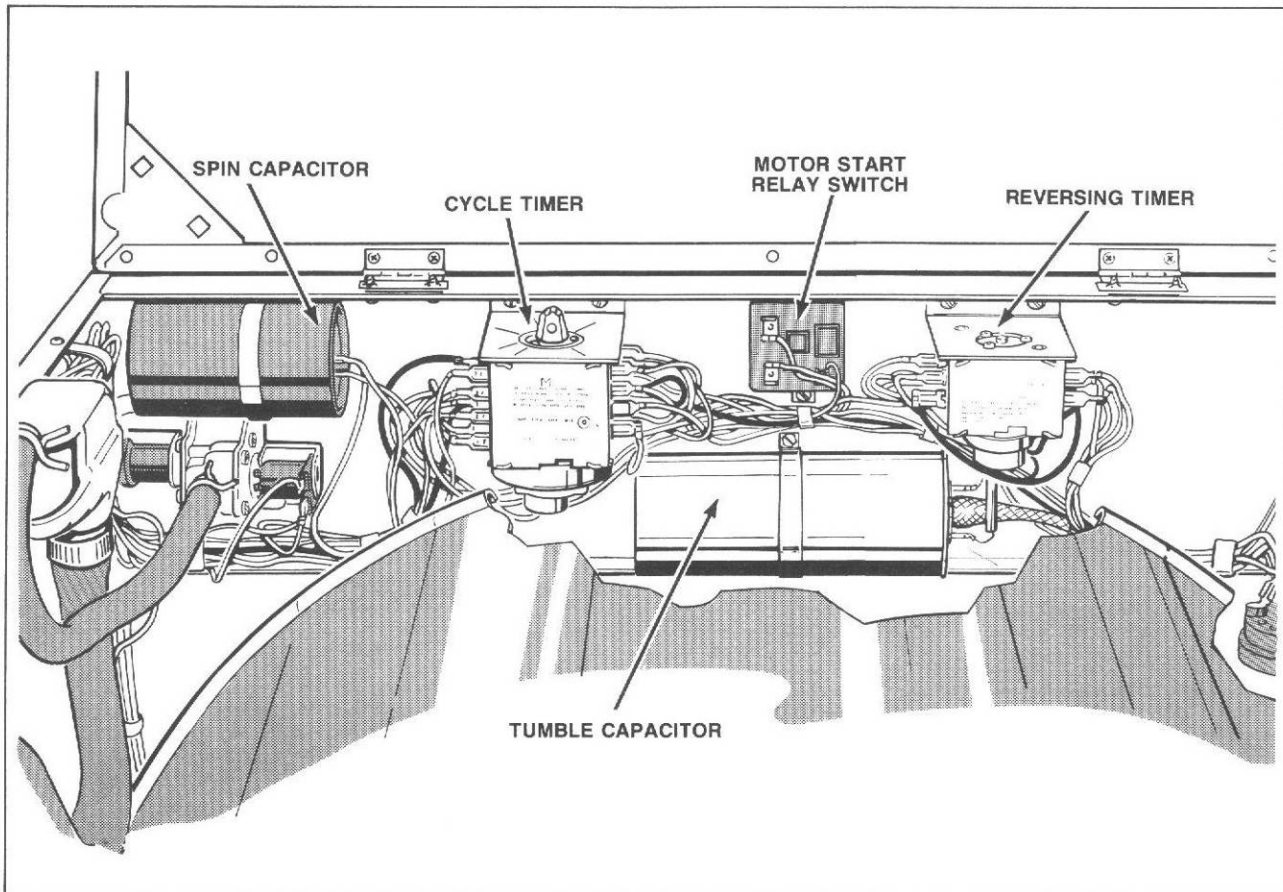

Figure 21
**22. MOTOR START RELAY SWITCH** (Refer to Figure 21)
(Refer to Figure 21)
**24. TUMBLE OR SPIN CAPACITOR** (Refer to Figure 21)